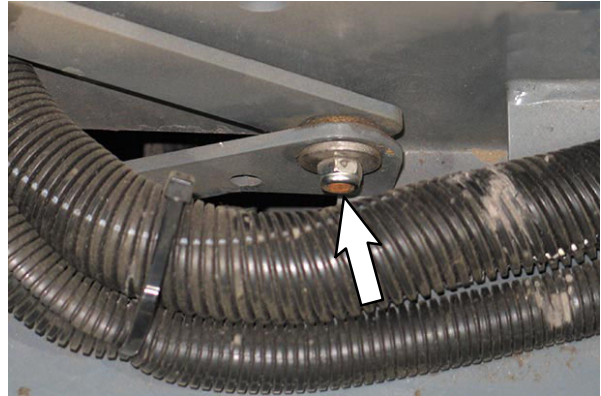

FIG. 5
7. Remove the hardware securing the link plate to the skirt pedal weldment. (Fig. 5)